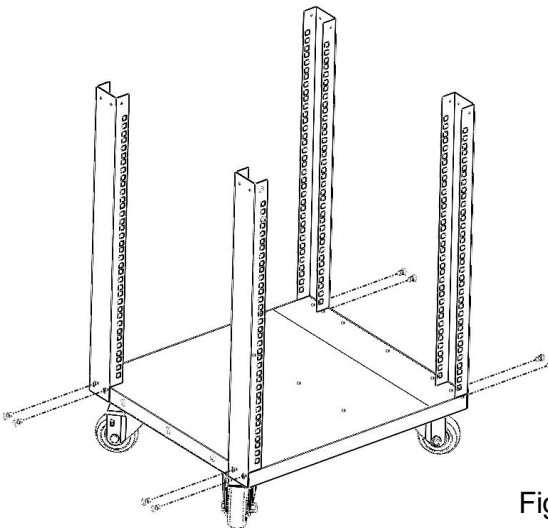

Figure 2
2. Align the Corner Support with Bottom Panel, Secure with 2pcs M5 Cross Head Screws by electrical screwdriver. then adopts same step to fix the rest of 3pcs Corner Support. See Figure 2.